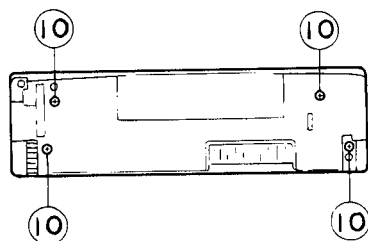

Fig.2-10
■ Operation switchi board (See Fig.2-10)
1. Remove four screws ⑩ retaining the rear cover